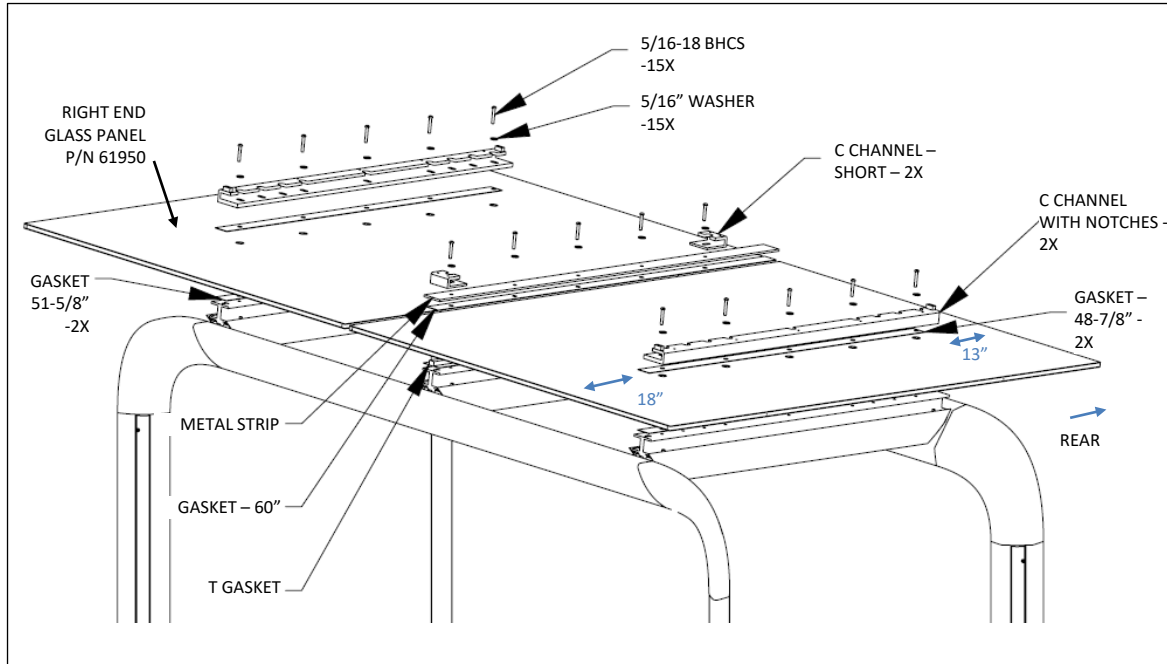

Fig. D2 – glass roof installation
2. Place gaskets on rafters. T-gasket is installed in center location, See Fig. D2.
3. Lubricate gaskets with soapy water. Place roof panels in position. See Fig. D2 for orientation of panels.
4. Place gaskets on top of roof panels. See Fig. D2 for location of different length gaskets.
5. Place metal top strip in position on top of gasket. See. Fig. D2 for location.